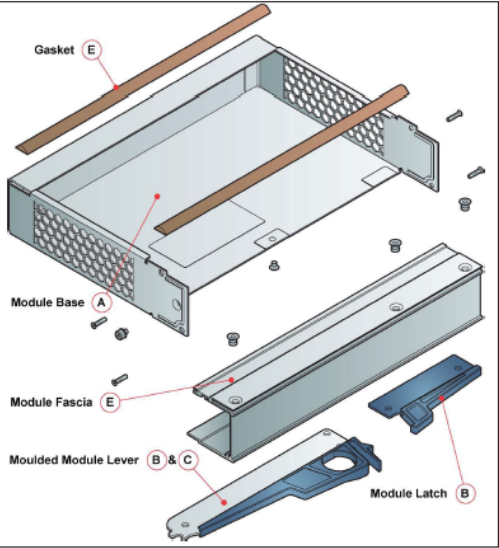

Figure 10: Exploded View of Blank I/O Module
- 1 Using drills and screwdrivers as appropriate to remove rivets and screws, dismantle the module as indicated in Figure 10.